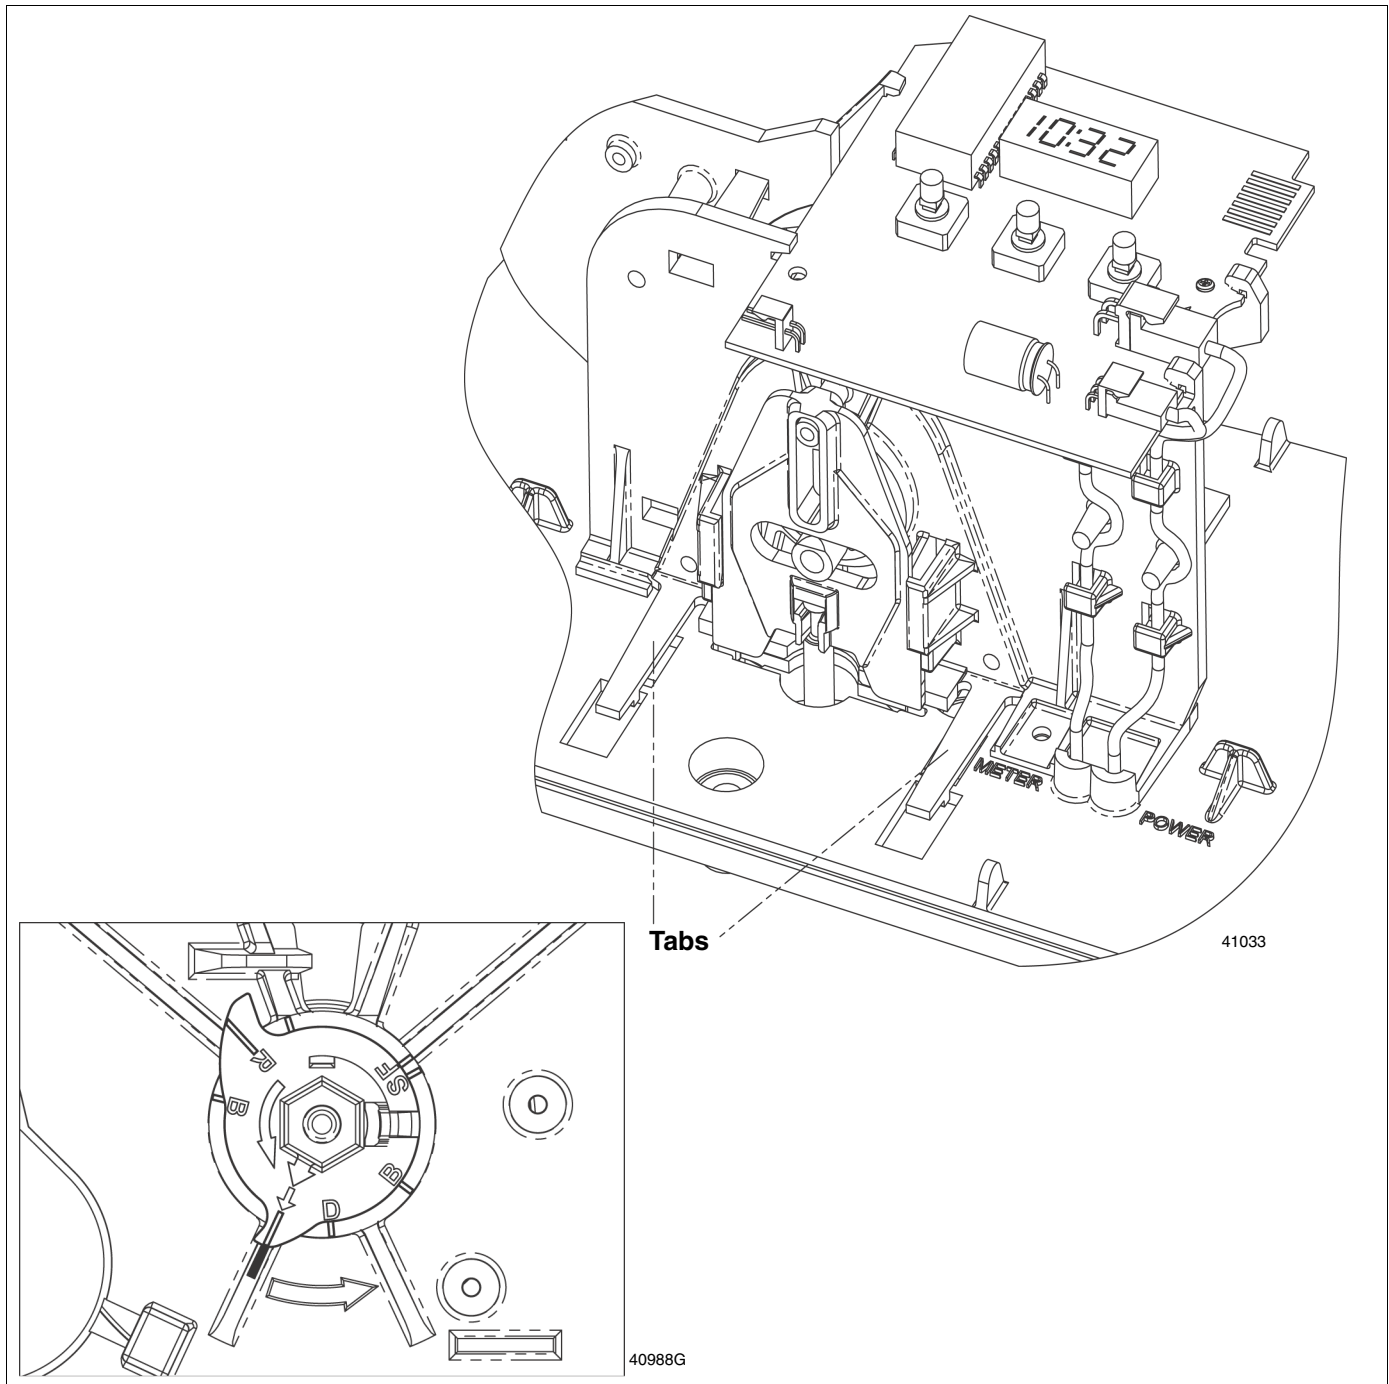

Figure 26: Removing the Gear Box Assembly
2. With 3/8" nut driver, turn the cycle cam counter-clockwise to the position shown in **Figure 26** above.